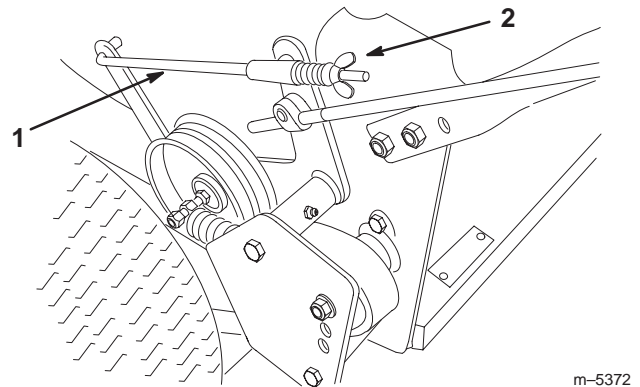

Figure 39
3. To adjust the brakes, rotate the wing nuts on the brake rods (Fig. 39). Rotate the wing nuts clockwise to tighten the brakes; rotate them counterclockwise to loosen them.